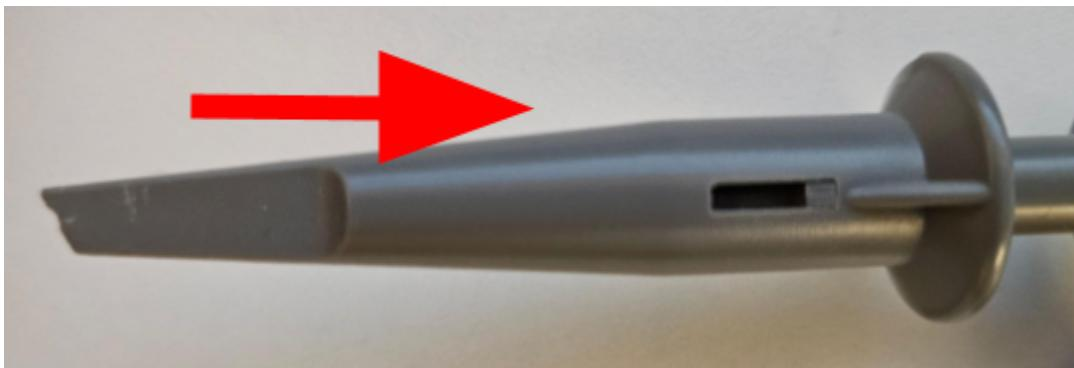

Figure 3: Probe hook tip (Witch Hat)
1. Hook Tip (Witch Hat): Shown in Figure 3, this part allows the probe to securely clip onto wires, headers, or test points on your circuit.
The hook tip or witch hat, as it is more commonly called, is used to “hook” the probe onto wires, test points, and headers to test the signals at those locations. As shown in Figure 3, to expose the hook, pull back on the tip. **DO NOT USE: Probes that do not have a hook tip on them.**